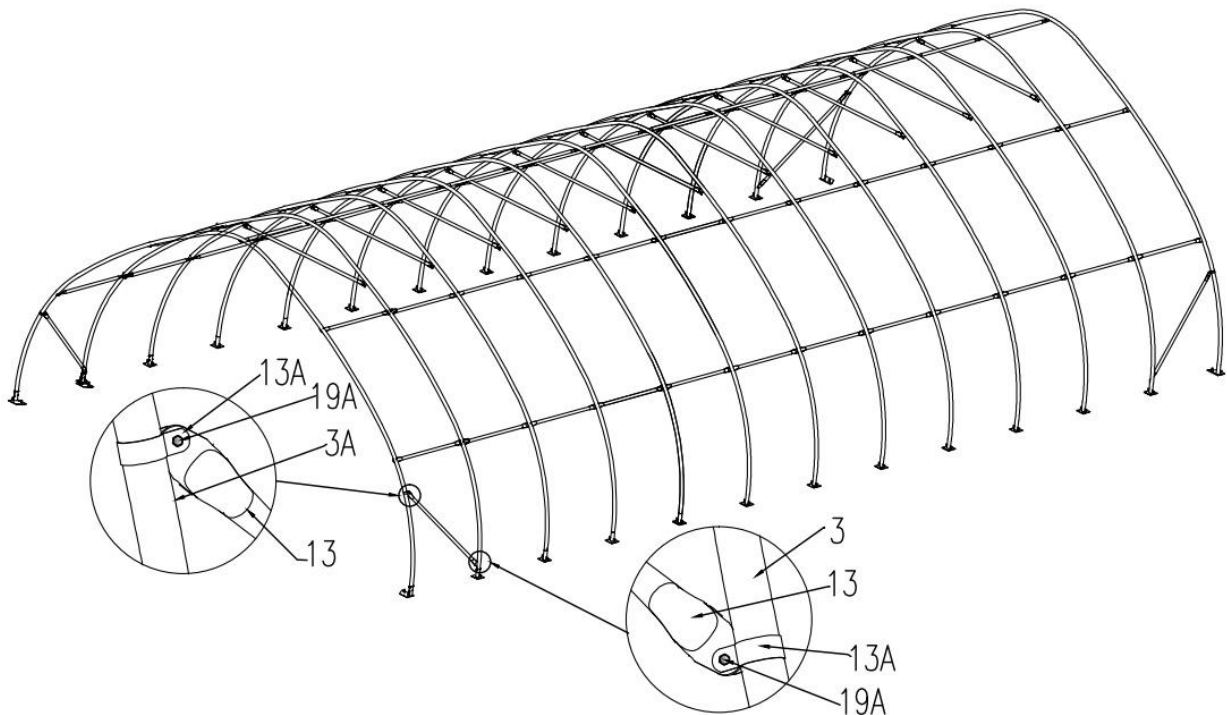

Figure 7
- Connect diagonal bracing bar (#13) on the first and last span to lower rafter tube (#3A and #3) with tube clamp (#13A), use bolt (#19A) (figure 7).